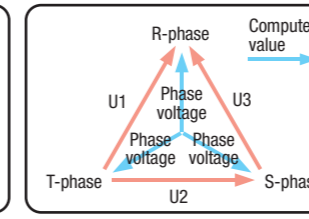

Figure 2 Delta-star conversion
- Delta-star conversion: Phase voltage is computed from the line voltage in the three-phase three-wire system (3V3A system) (Figure 2).